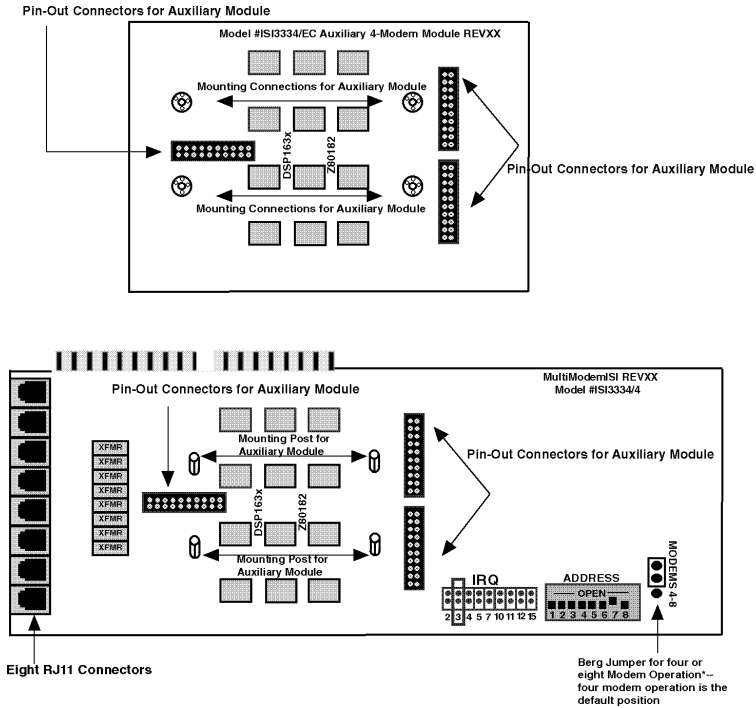

Figure 2-2. MultiModemSI/Auxiliary Module Components
- i) Changing the "Modems 4 - 8" berg jumper to the 8 modem position on the MultiModemISI (see Figure 2-2).